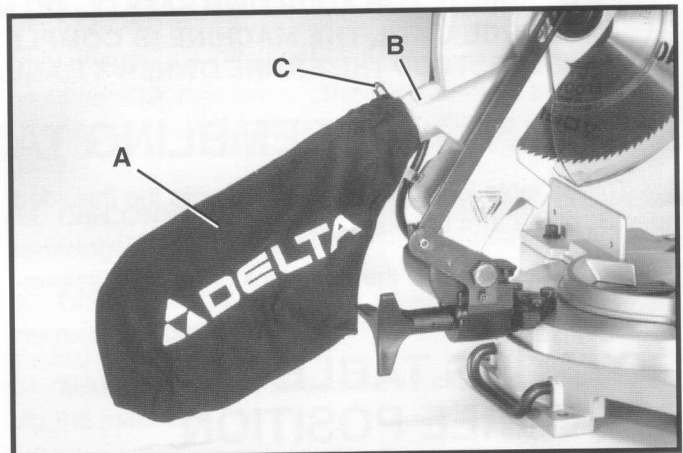

Fig. 8
1. Assemble dust bag (A) Fig. 8, to the dust spout (B) making sure the wire ring (C) is engaged with the groove in the spout.